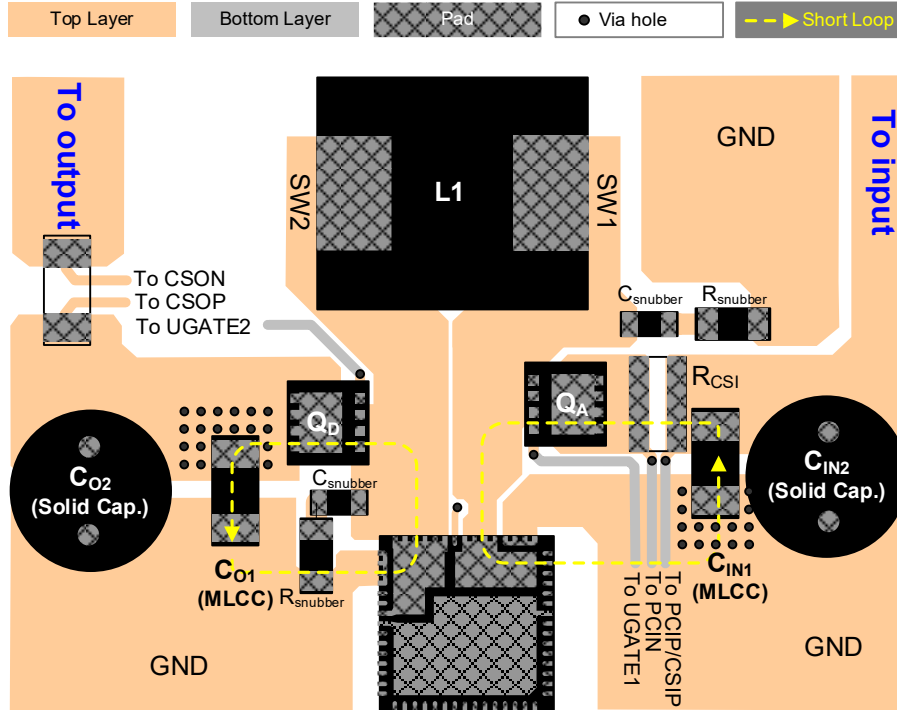

Figure 6. Recommended PCB Layout of the Power Stage
- Figure 6 is a recommended placement of the PWM buck-boost power-stage. Two critical loops “from $C_{IN} \rightarrow R_{CSI} \rightarrow Q_A \rightarrow$ IC internal Q_B to C_{IN} ” and “from $C_O \rightarrow Q_D \rightarrow$ IC internal Q_C to C_O ” must be as short as possible to minimize the switching noise at PCIP/CSIP, PCIN, SW1, SW2 and ZCD pins. The shorter paths also help to